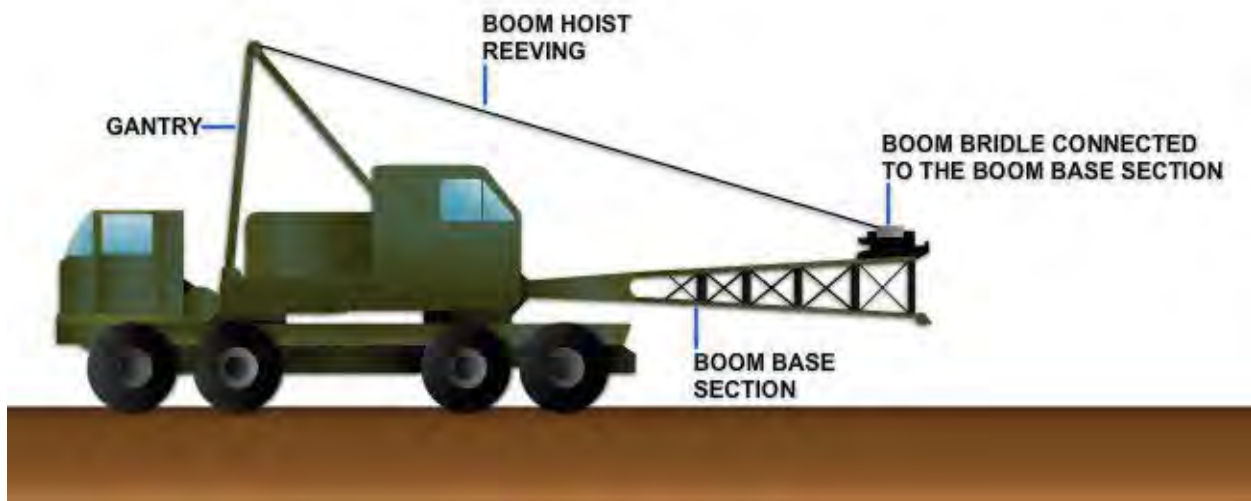
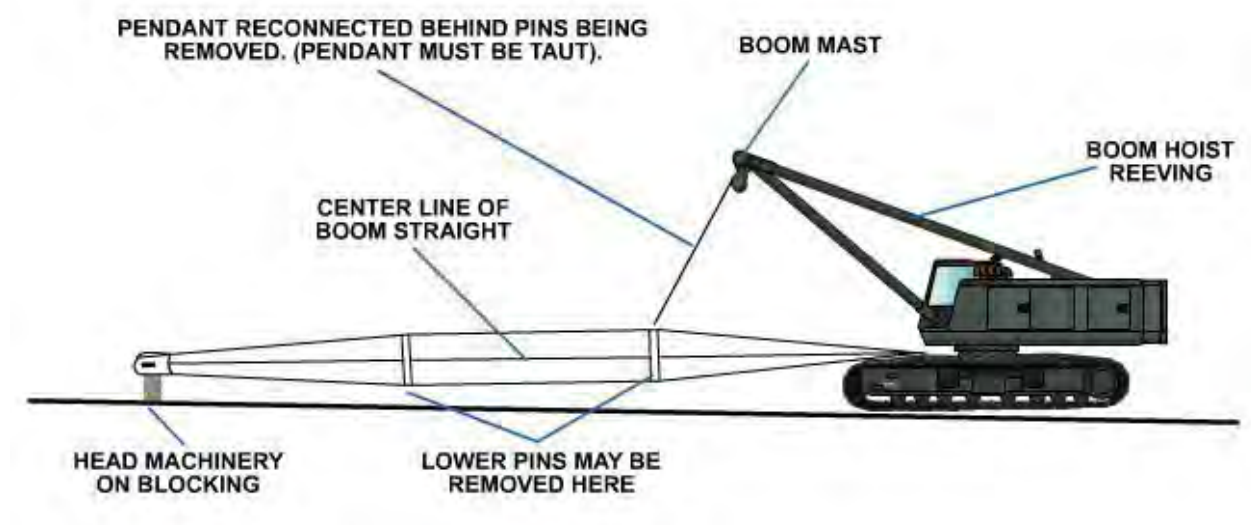

Figure 21-19 – Bridle connection.
Figure 21-20 – Boom mast connection.
- Step 5. Position the bridle assembly on top of the boom base (Figure 21-19). The operator does this by engaging the boom hoist control lever to tighten the boom hoist lines until the bridle is positioned on top of the boom base. To align the pinholes, manually position the bridle assembly using a crowbar. The pins that are used for the pendant line connections are normally the pins used to connect the bridle assembly to the boom base. If the crane is equipped with a boom mast, the boom mast normally has a short set of pendants that connect to the boom base pinholes (Figure 21-20).